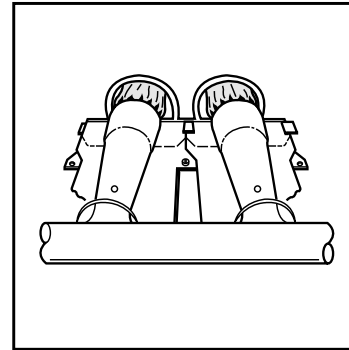

Fig. 34 - Burner Flame
6. Start the furnace and observe its operation. Watch the burner flames to see if they are clear blue, almost transparent. (See Fig. 34.) If you observe a suspected malfunction, or the burner flames are not clear blue, call your dealer.